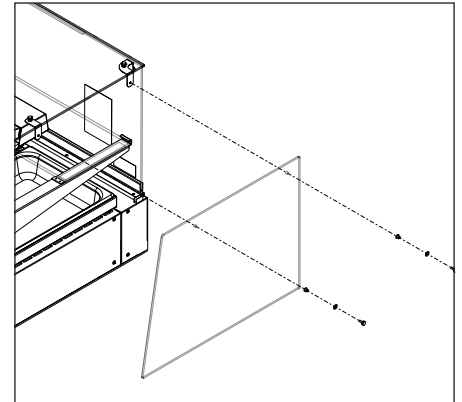

Figure 11. Side Glass Replacement
2. Remove the two Phillips head screws, washers, and nylon spacers securing the side glass (Figure 11).